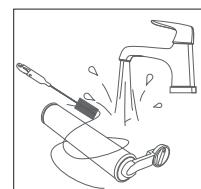

Fig. 14 – Cleaning the microfibre roller
- ▶ Clean the microfibre roller under running water. If necessary, also use the cleaning brush supplied (28) (**see Fig. 14**).